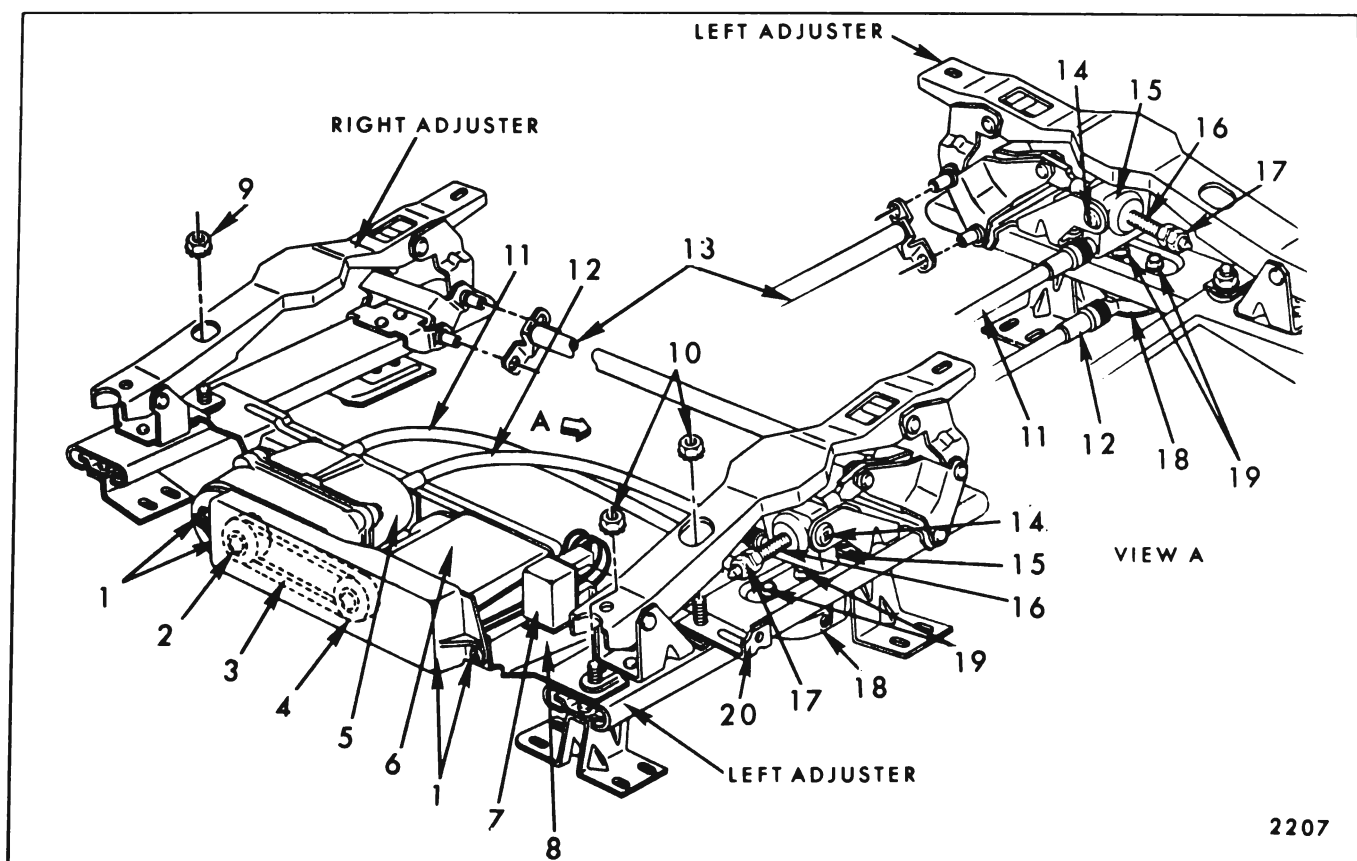

Fig. 15-43 —Four-Way Bucket Seat Adjusters
4. Remove nuts securing motor and transmission support to adjuster being removed (Fig. 15-43).
1. At front of seat remove motor and transmission drive belt cover attaching screws (Fig. 15-43) and remove cover.
2. Remove drive belt (Fig. 15-43) from both motor and transmission drive pulleys. Pulleys may be removed from either motor or transmission by pulling pulleys off their respective shaft.
3. Remove motor and transmission drive belt cover and remove drive belt (Fig. 15-43).
3. Using a clutch type screwdriver or other suitable tool, remove shoulder screws securing linkage to vertical gearnut (Fig. 15-43).
4. Remove jackscrew "down" stop from jackscrew (Fig. 15-43).
3. As a bench operation, remove jackscrew-to-adjuster linkage attaching rivet and remove jackscrew from adjuster assembly (Fig. 15-43).
2. Using a clutch type screwdriver or other suitable tool, remove shoulder screws securing linkage to vertical gearnut (Fig. 15-43).
5. Remove screws securing horizontal actuator assembly to adjuster lower track; then remove actuator from adjuster assembly (Fig. 15-43).